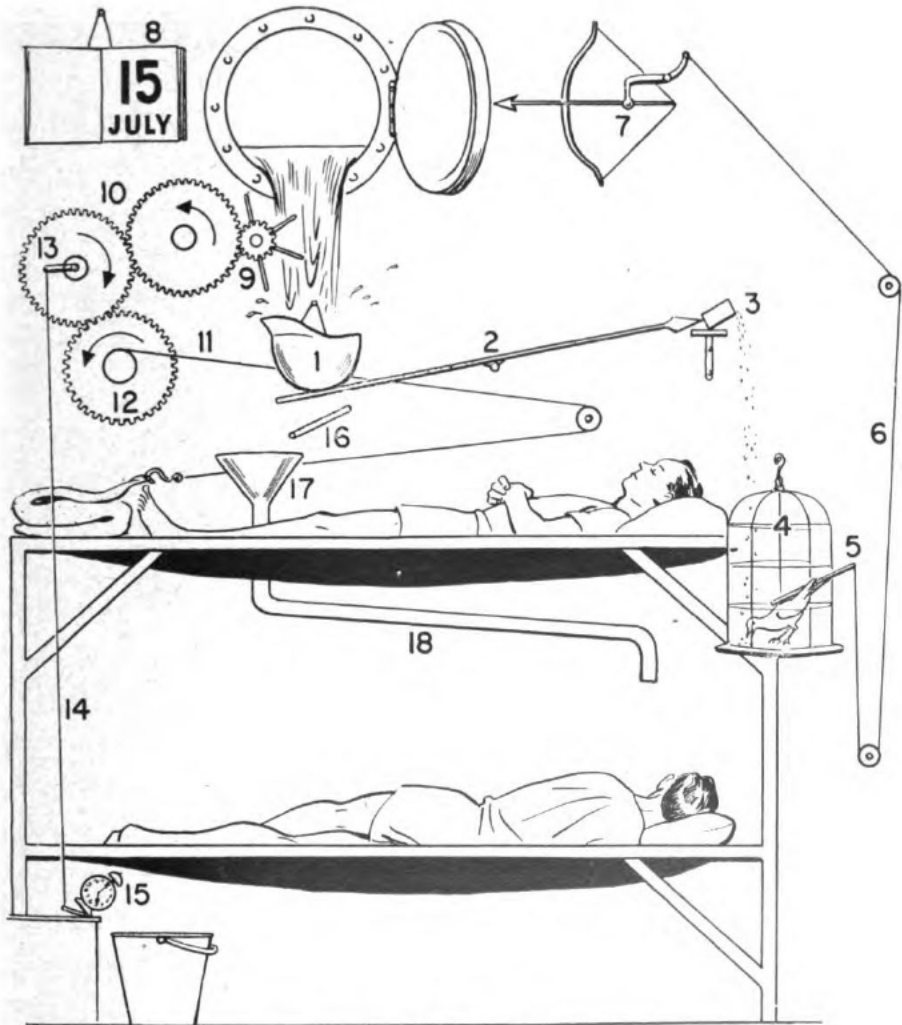

Figure 97.—A complex machine!
Take a good look at figure 97 and read the directions for operation. THIS MACHINE was invented by a guy named Oscar. Sea water entering open port is caught in helmet (1) hung on rubber band. Rubber stretches and helmet is pushed down against shaft of Australian spear (2). Head of spear tips over box of bird seed (3) which falls in cage (4) where parrot (5) bends over to pick it up. Board strapped on parrot's back pulls on string (6) which releases arrow (7) and slams the port shut. Breeze from closing port turns page on calendar (8) to new day.